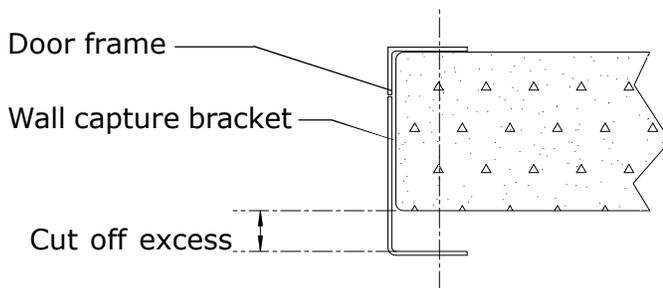

Figure 16B
- Set the gap distance between the doors edges as shown figure 16B using two 3/16" thick metal shim bars as spacers.